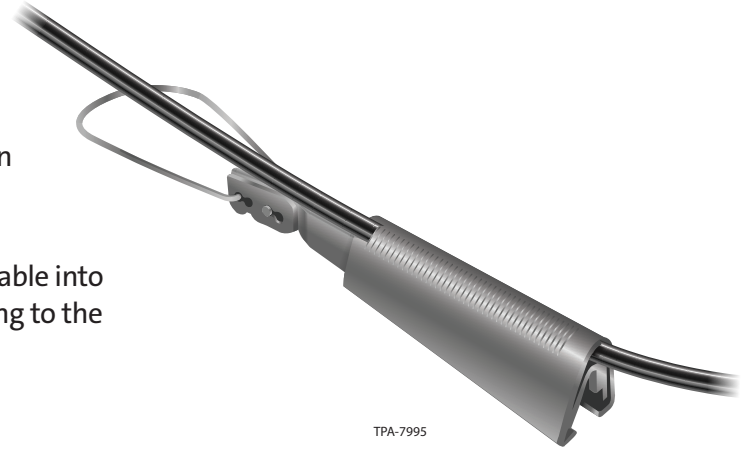

Figure 1— Wedge clamp
- Step 1:** Use a wedge clamp to secure the cable in an aerial application (Figure 1).